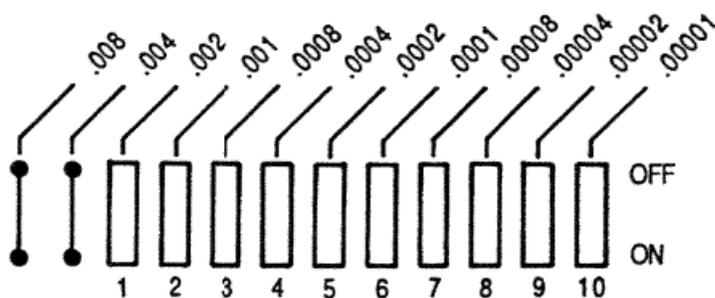

Figure B-2. Schematic of DIP switches with numbers corresponding to values
- Step 3.** Referring to Figure B-2 for the values for each of the DIP switches, set the DIP switches ON and OFF as needed.
The maximum sensitivity that can be set using the DIP switches is 0.00399. If a higher sensitivity is needed, the two pairs of vertical holes on the right side of the DIP switches can be activated to give 0.004 and 0.008. To activate them, connect together the first two holes or the second two holes (Figure B-2).